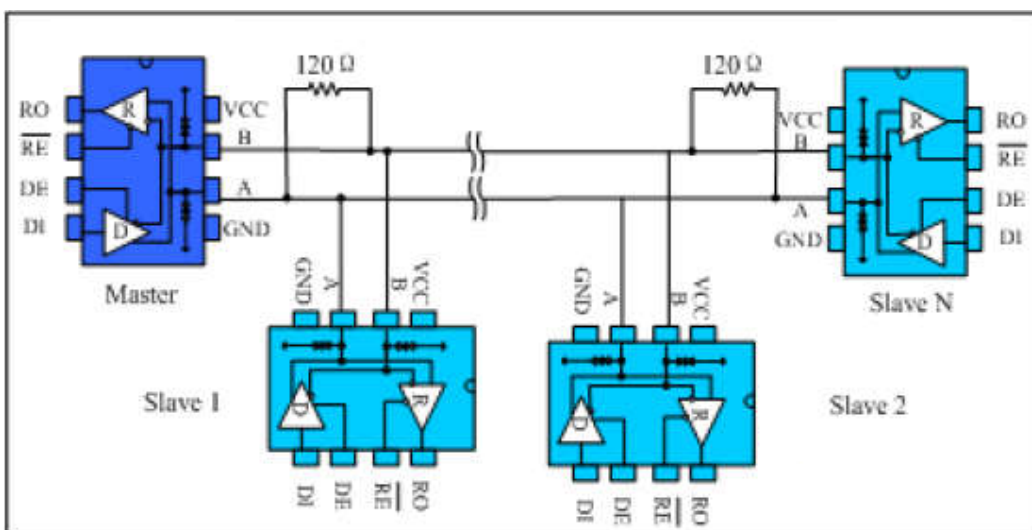

Fig. 9 Bus-type RS485 half-duplex communication network
4.1 Bus networking: The SP3485EEN RS485 transceiver is designed for bidirectional data communication on multi-point bus transmission lines. Figure 9 shows a typical network application circuit. These devices can also be used as linear repeaters with cables longer than 4000 feet. In order to reduce reflections, terminal matching should be done at both ends of the transmission line with their characteristic impedance, and the length of the branch wires other than the main line should be as short as possible.